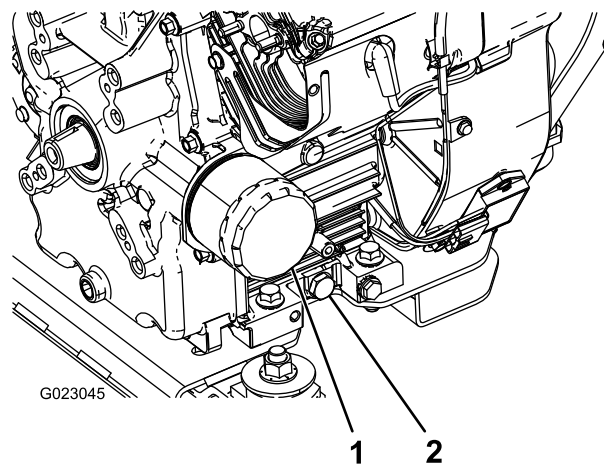

Figure 43
5. Remove the drain plug (Figure 43).
2. Remove the oil filter (Figure 43).
tighten the filter an additional 1/2 turn (Figure 43).